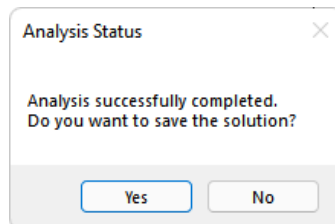

FIGURE 9-85
- When the analysis is complete you will receive the message shown in **FIGURE 9-85**.